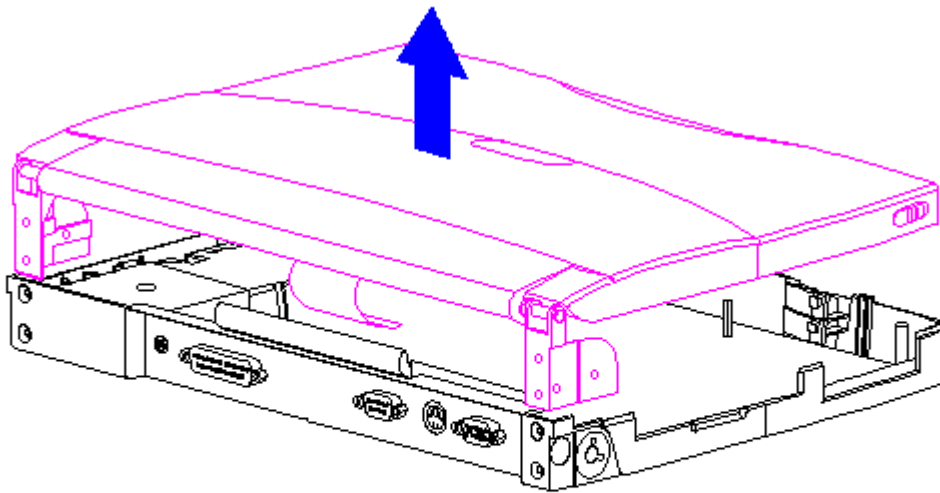

Figure 5-65. Removing the Display Assembly
8. Remove the display assembly from the system unit module (Figure 5-65).